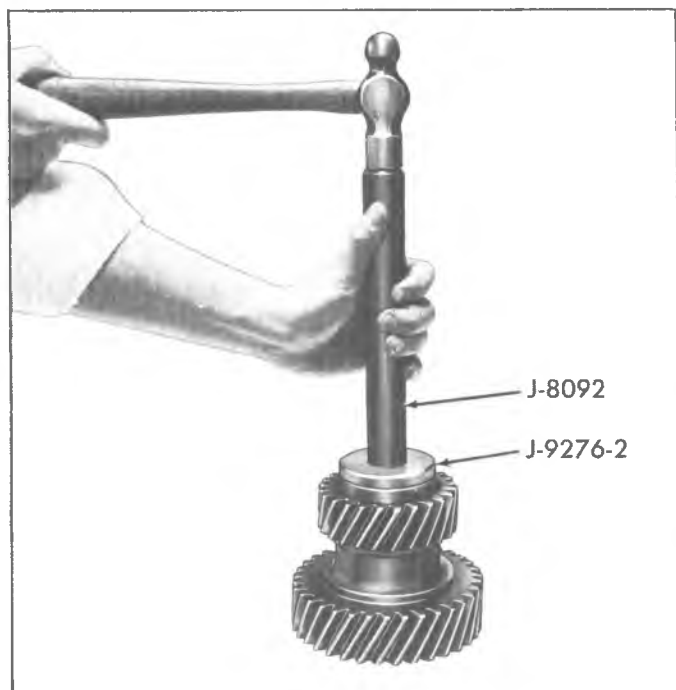

Fig. 10C-Installing New Bearing Cups
1. Press the two bearing cups in the idler gear (if previously removed) using Tool J-9276-2 and Handle J-8092 (Fig. 10C).